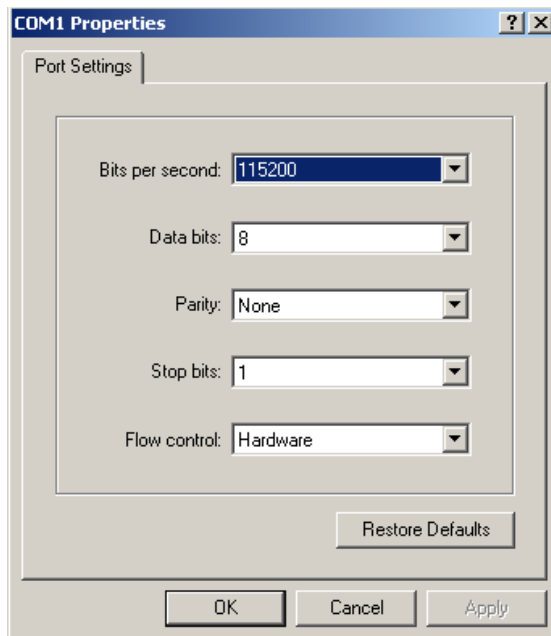

Figure 3-9 COMn Properties Dialog Box
- g. Ensure the *Connect using* field displays **COM1** or **COM2** (depending on the serial communication port connection to the switch), and click *OK*. The *COMn* dialog box displays, where *n* is 1 or 2 (Figure 3-9).